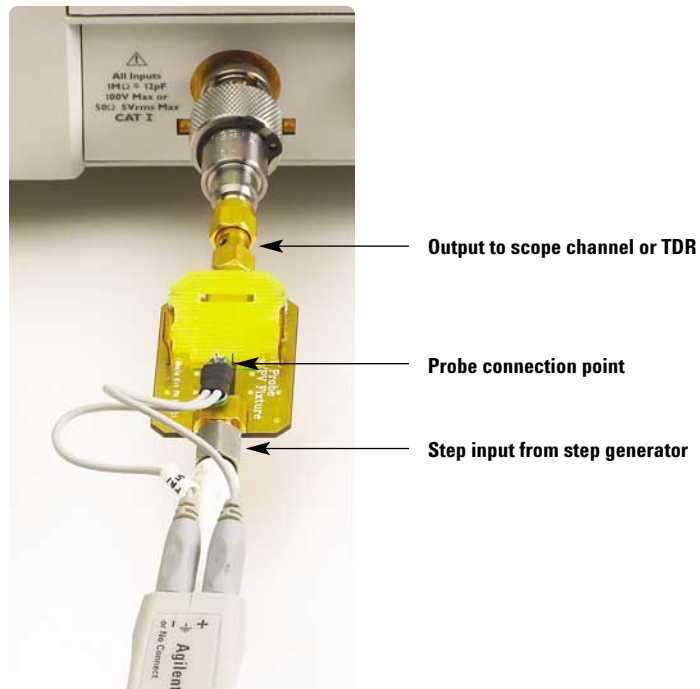

Figure 3. Probe deskew fixture E2655A
The E2655A probe performance verification (PV) and deskew fixture allows us to connect the probe tip to a 50 ohm transmission line, as shown in Figure 3.